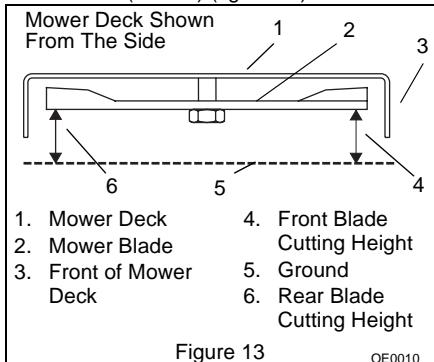

Figure 13
2. Rotate the right and left mower blades until the ends of both mower blades are facing rearward (figure 13).
**NOTE:** The rear blade cutting height should be 2-7/8 to 3 in. (7.3 to 7.6 cm) from rear edge of mower blades to the ground on both blades (figure 13).
**IMPORTANT:** The distance from rear edge of mower blades to the ground MUST NOT exceed 3 in. (7.6 cm) (figure 13).
3. Measure from rear edge of mower blades to the ground (figure 13).
1. Rotate the right and left mower blades 180 degrees until the end of the mower blade that was used to level the mower deck is facing forward (figure 13).
3. Subtract front blade cutting height measurement from rear blade cutting height measurement (figure 13).